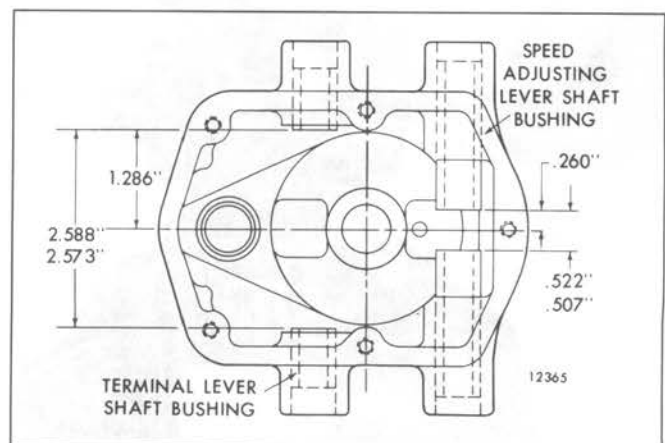

Fig. 13 – Location of Speed Adjusting Lever and Terminal Lever Shaft Bushings in Governor Housing
1. If removed, install new speed adjusting lever and terminal lever shaft bushings in the governor housing to the specified dimensions shown in Fig. 13.
2. If removed, install the pipe plug (83) in the governor housing.
3. Lubricate the two oil pump gears (38) and (63) with engine oil and place them in their respective positions in the governor base (40).
4. Place a new seal ring (39) in the groove in the governor base, with the wide side of the seal down in the groove.
5. Set the governor housing (45) on the base with the dowels in the base registering with the holes in the housing and the idler gear stud in the housing registering with the hole in the idler gear. Press the housing down against the seal ring in the base.
7. Insert the three screws (42) through the governor base and thread them into the governor housing. Turn the ball head assembly while tightening the three screws to make sure the ball head assembly rotates freely.